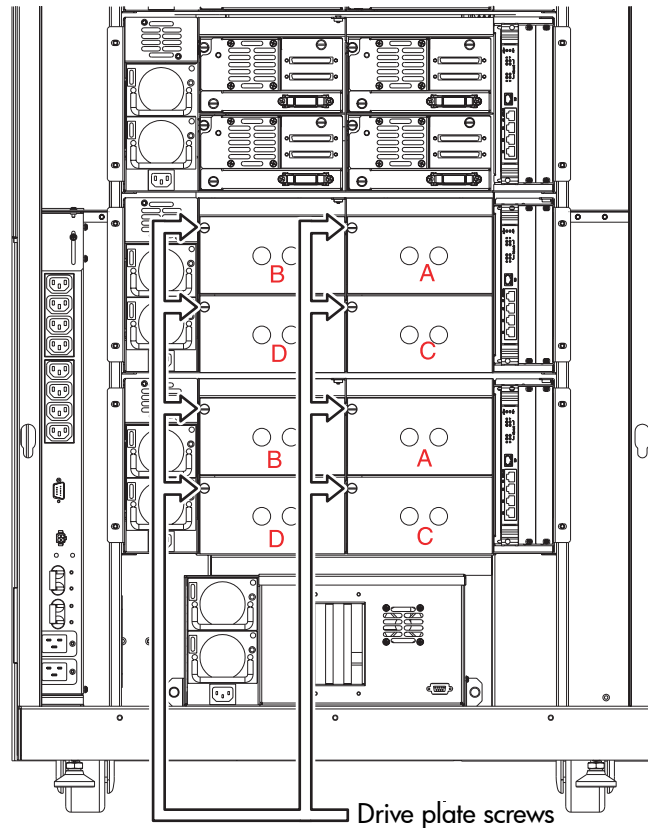

Figure 35: Preparing the drive bay
2. Using a #2 Phillips screwdriver, remove the plate covering the back of the drive bay for each drive you need to install (see Figure 35).